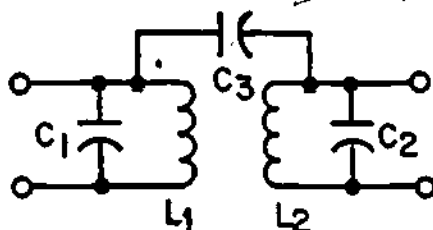

Figure 10
10. We have been talking about tuned transformer coupling, which is very good for many applications. However, the transformer's efficiency is considerably reduced when we try to couple signals at the higher RF frequencies. To get around this problem, we can use a coupling circuit like the one shown in Figure 10.
In Figure 10, coupling is done by component _____.